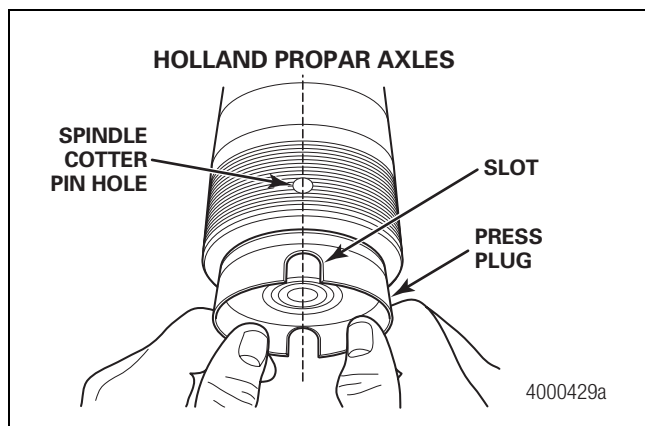

Figure 2.22
- **For Holland Propar Axles Only:** The press plug slots must align with the spindle cotter pin holes. Figure 2.22.